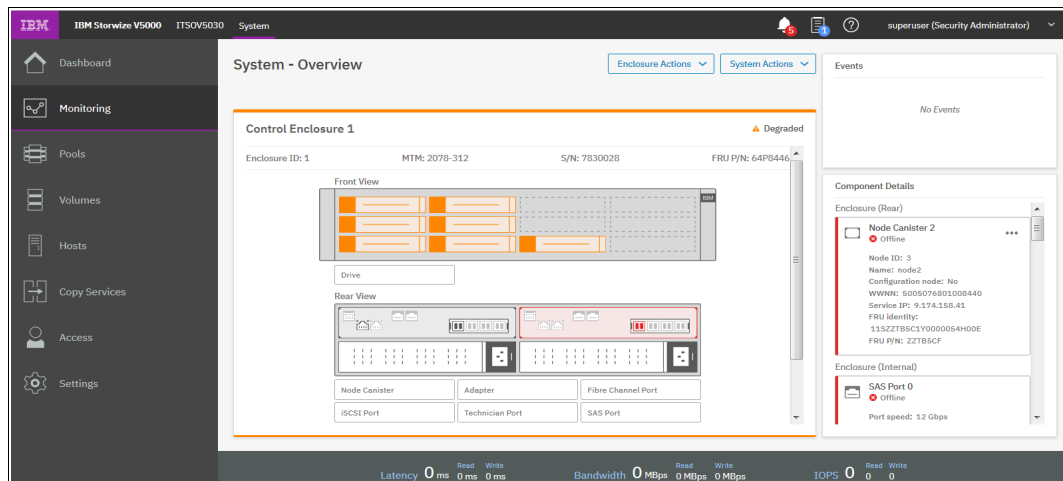

Figure 3-4 Component Model
- ▶ The left side of the window shows eight *function icons*, which are collectively referred to as a *dynamic menu*. The dynamic menu (see Figure 3-4) includes the following function icons: